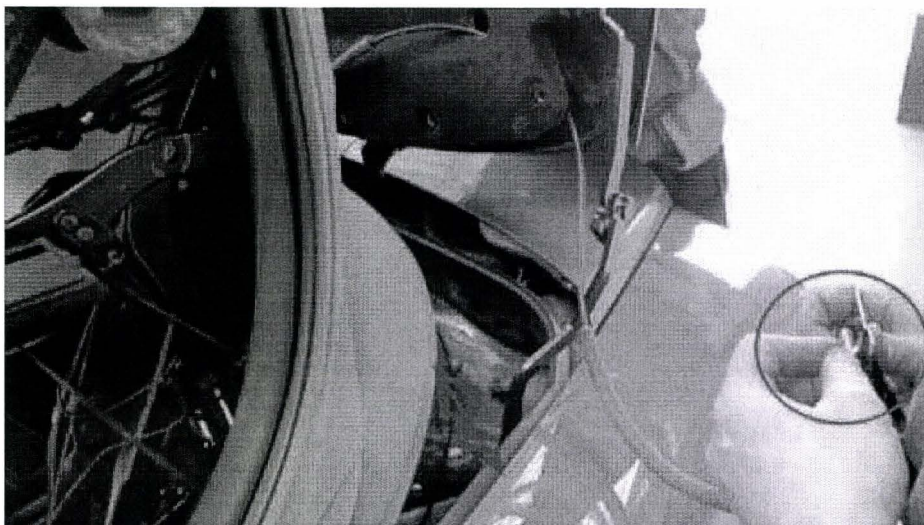

Figure 8
6. When connecting the new Bowden cable to the C flap the hood will need to be lowered to produce sufficient length in the Bowden cable to enable its attachment to the C flap (see Figure 8)